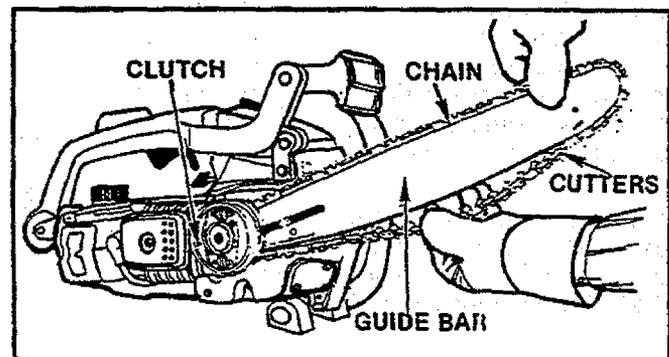

Figure 4
- Place the Guide Bar on the saw by fitting the long slot in the Guide Bar over the Bar Stud. Figure 4.